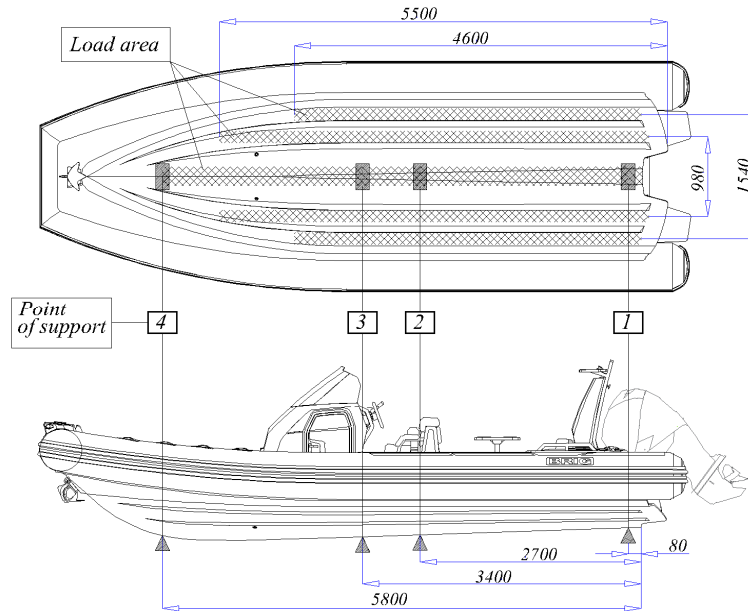

Fig.22
Installed on a trailer (or on keel-blocks for storage) the boat should be laying on all surface of the **Load area** (Fig.22). It is possible to install the boat on the **Points of support (1), (2), (3), (4)**. **Point of support (1)** must be use always and any other recommended points may be chosen by you depending on the trailer design. But at least three **Point of support** must be used at the same time.